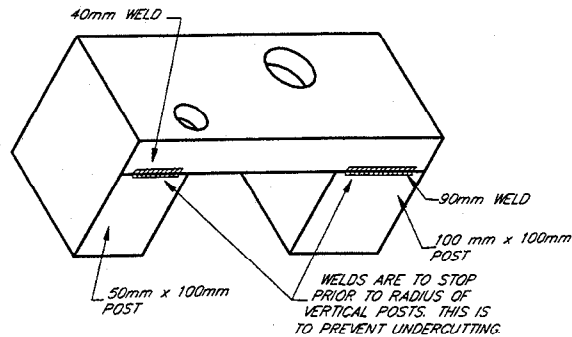

Figure 4 - Position of Welds
- p. Weld rails, as shown in Figure 4, pay particular attention to ending of welds (to minimise weld undercuts).